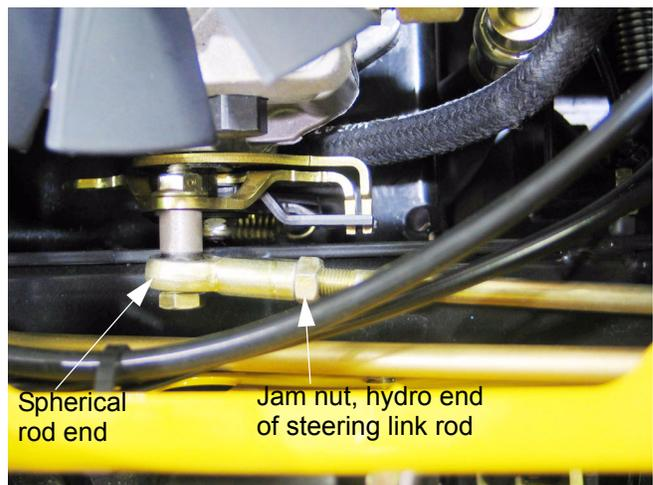

Figure 17.7
17.7. Loosen both jam nuts that lock the adjustment on the steering link rod using a 1/2" wrench (nuts) and a 7/16" wrench to hold the spherical rod end. See Figure 17.7.